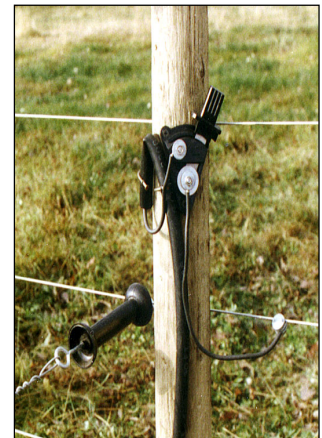

Figure 9 Typical Cutout Switch
- various cutout switches for isolation of fence sections (refer to Figure 9, page 10)
A convenient switch location is where a number of fences join or at a gate under or over pass. These switches must be designed for outdoor use or be protected from the weather. Simple plastic fence switches are available; as shown in Figure 9. See also the temporary wire joint discussion on page 7.